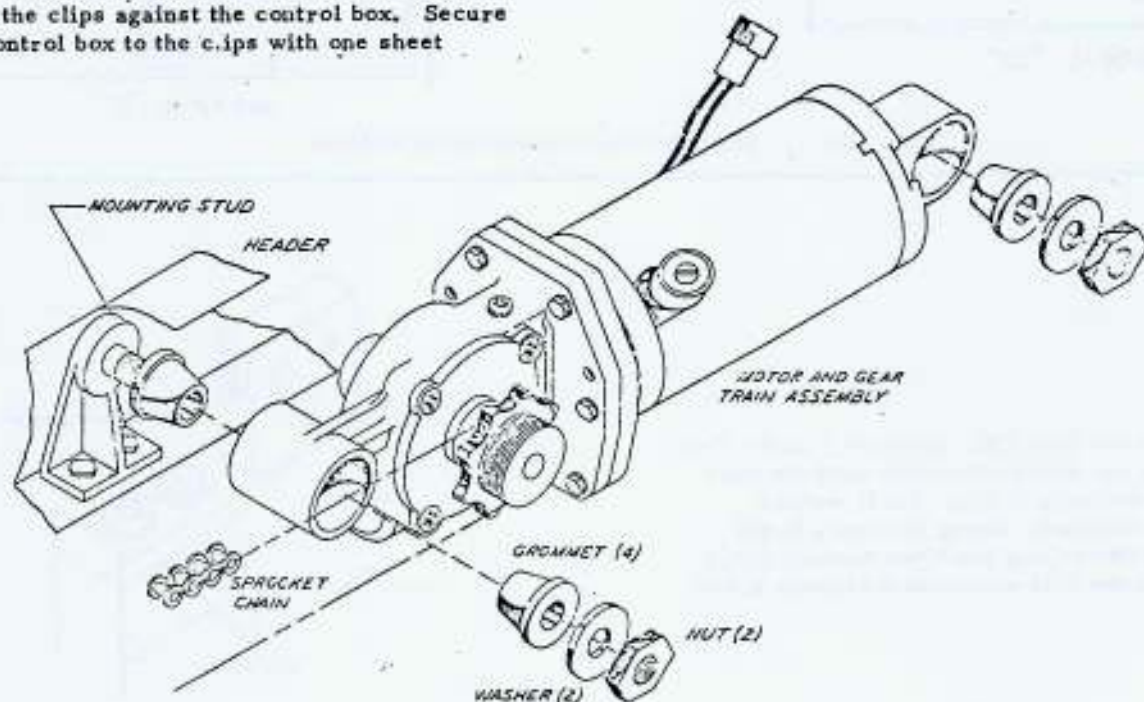

FIG. 24 Installation of motor and gear train assembly.
1. The two studs for mounting the motor and gear train assembly are located to the right of the control box (previously installed). Slip a rubber grommet onto each stud. The tapers on the grommets must point toward the open side of the header (see FIG. 24).